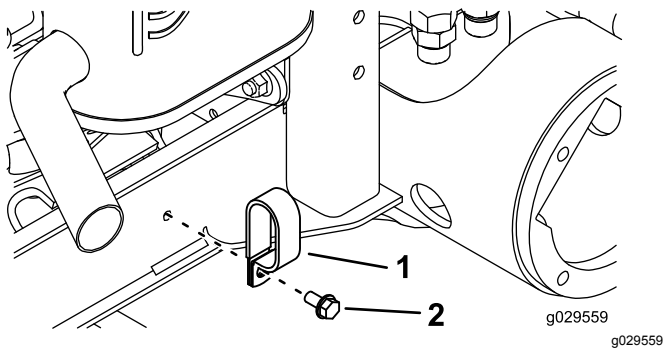

Figure 32
4. Remove the bolt securing the hose clamp to the frame channel on the right side of the machine (Figure 32).